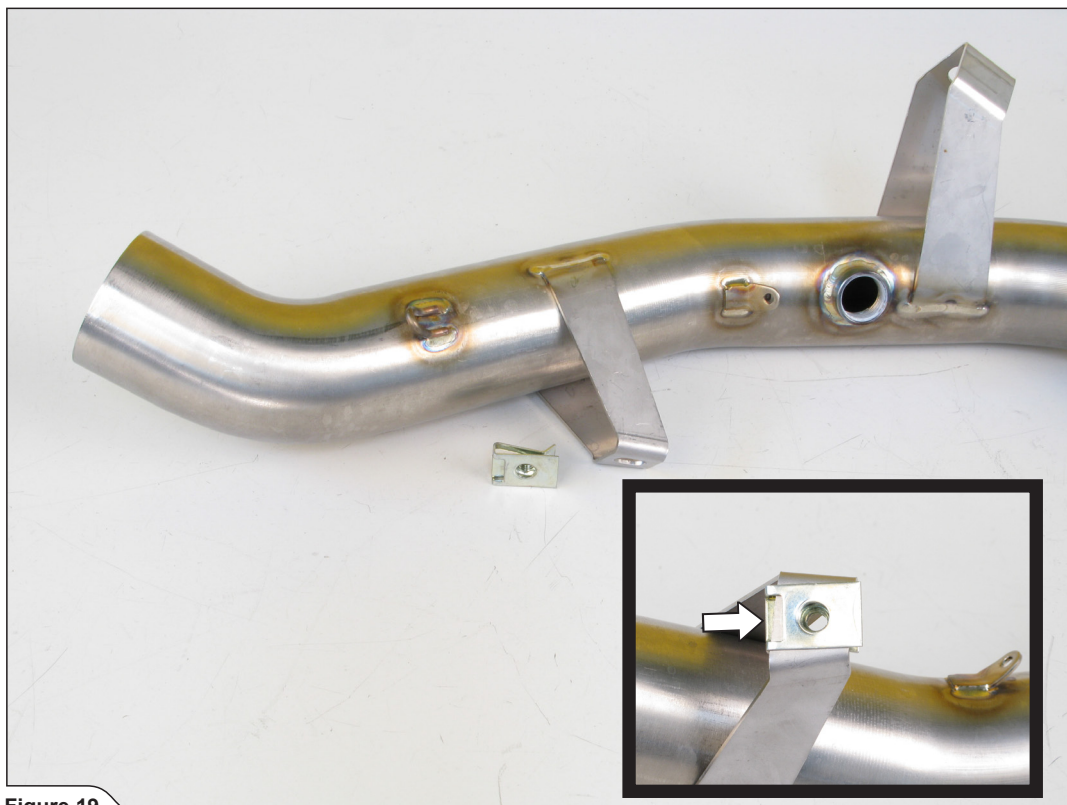

Figure 19
5. Assemble the press-on nut from Akrapovič installation kit, onto the marked link pipe's bracket (Figure 19).